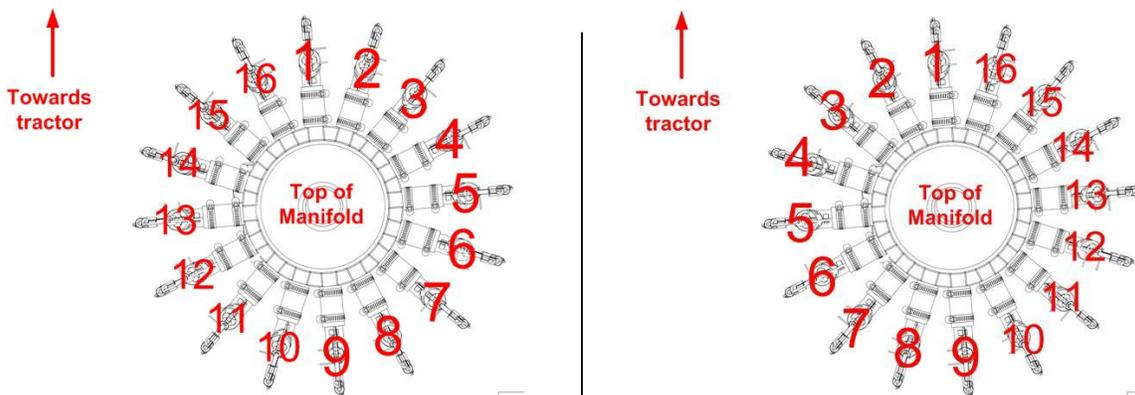

Figure 11: Order to connect flow sensors to ECU
2. Remove and discard the cap at the end of the flow sensor tube of the run that is immediately left of the manifold post (when facing the tractor). This run is labeled "1" in Figure 11).
- Continue removing the caps from the ends of the flow sensor tubes, running them through the top of the ECU bracket, and attaching them to the proper ECU port, working clockwise around the manifold as shown in Figure 11.